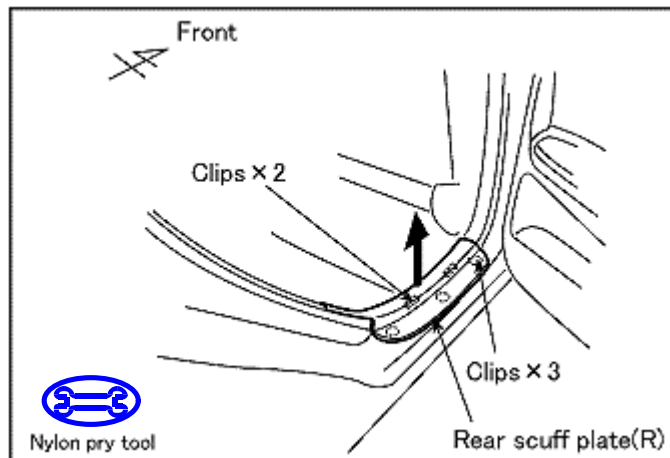

Figure F1
-  1. Use nylon pry tool to disengage clips on rear right scuff plate. (Figure F1)
2. Remove the rear scuff plate. (Figure F1)